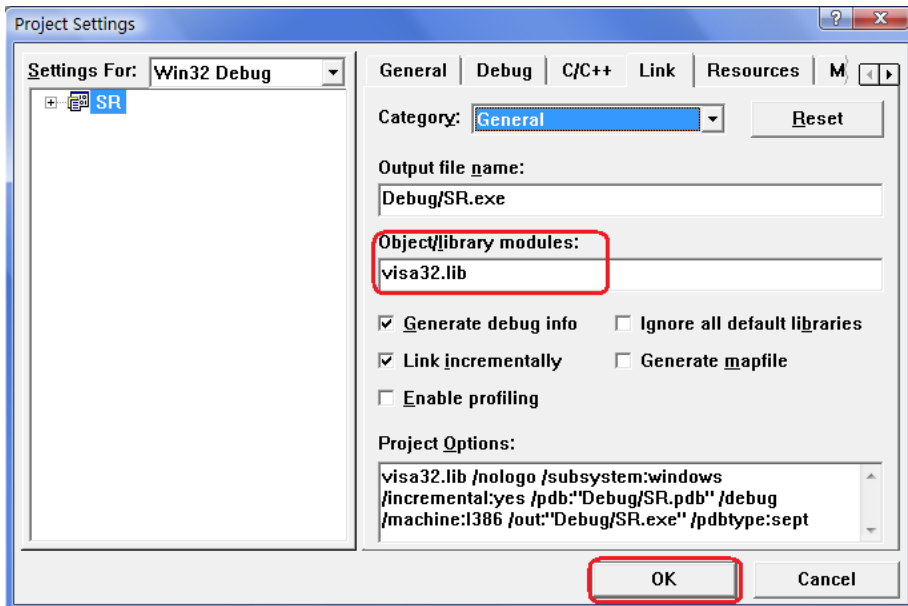

Figure 4-1-2
1. Choose Project → Settings → Link, add the file `visa32.lib` manually in Object/library modules; click OK; as is shown in figure 4-1-2.